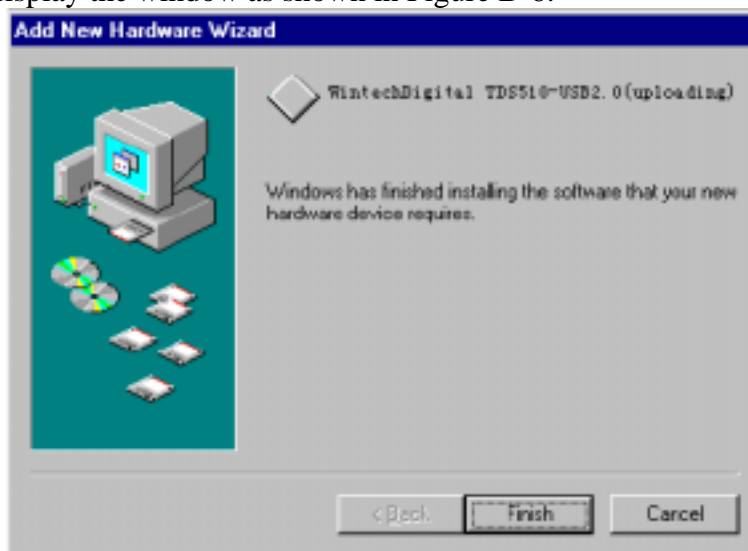

Figure B-6
6. Click on Next and the wizard will complete the driver installation and display the window as shown in Figure B-6.